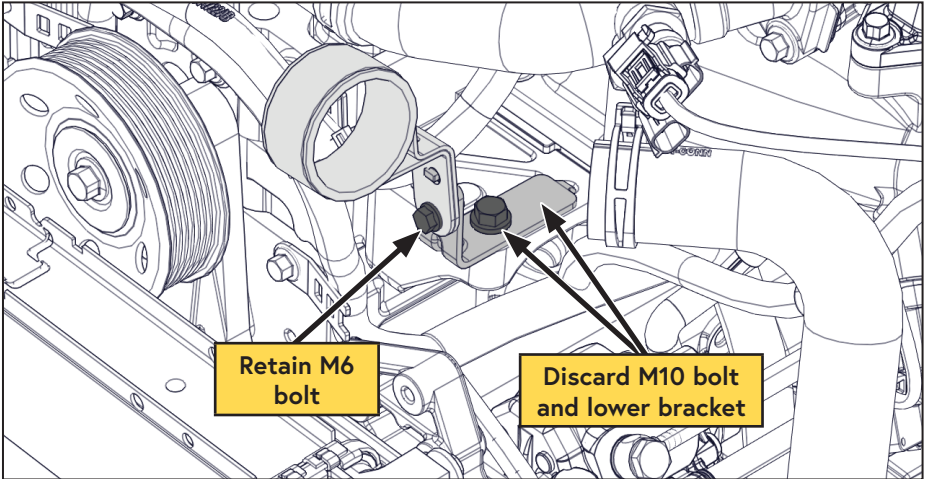

Figure 13 — Radiator hose support bracket
- Remove the engine mounted portion of the upper radiator hose support bracket. Discard the M10 mounting bolt and the lower part of the bracket but retain the M6 bolt for later in the installation (Figure 13).